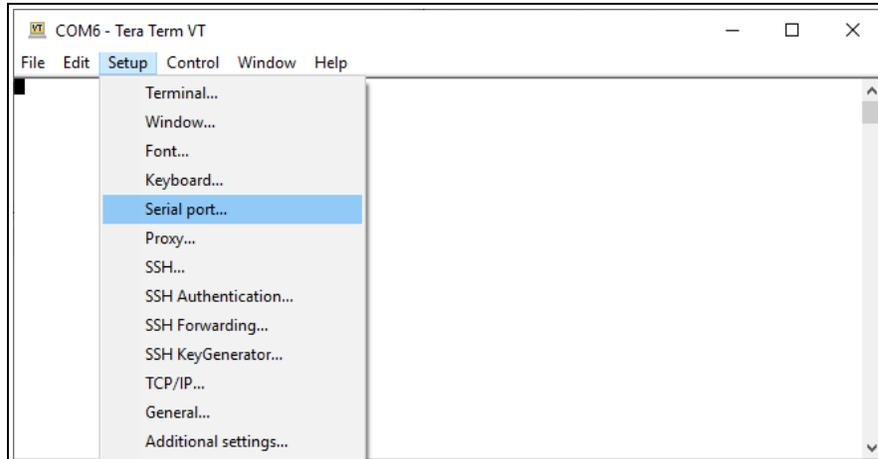

Figure 223: Setup menu > Serial Port
5. In the **Tera Term** window, click the **Setup** menu and select **Serial Port**. Figure 223